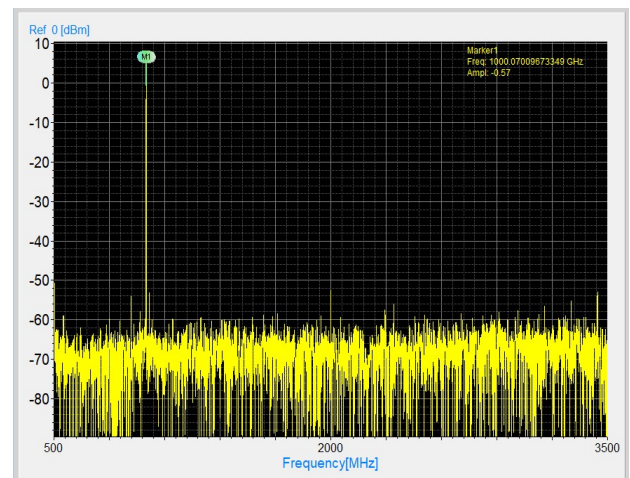

Fig.15 1GHz in Linear Freq Sweep with 3GHz SPAN
- Open the **Frequency** menu. Enter **500 MHz** as the **Start Frequency** and **3.5 GHz** as the **Stop Frequency**. Click **Send** to apply the sweep range to the device (see Fig. 15).